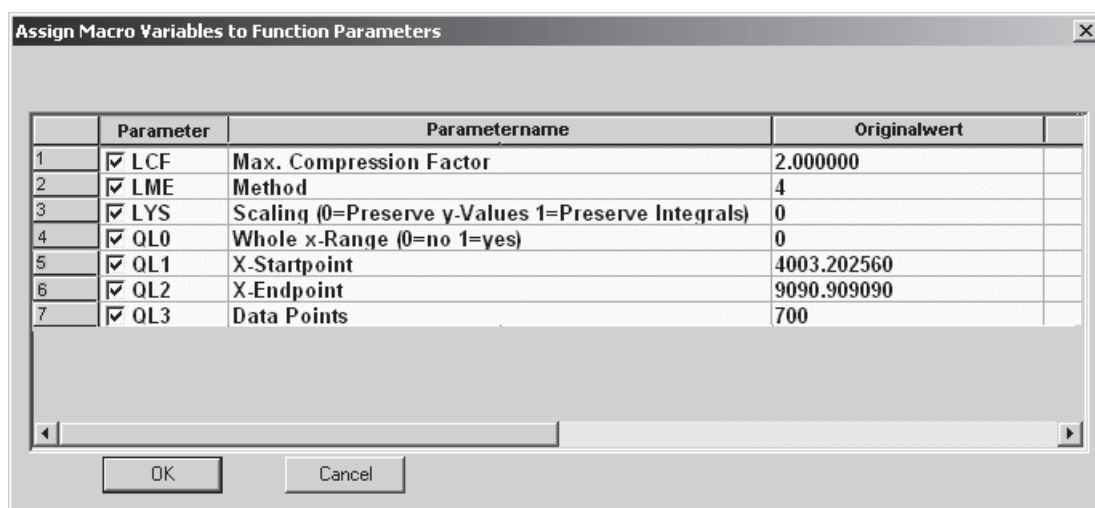

Figure 19: Macro editor - Assigning parameters
**Note:** When converting a particular frequency range into *nm* (wavelength) you first have to select the range into  $\text{cm}^{-1}$  (wavenumbers) in OPUS. The parameters correspond to the settings made in the *1/cm <-> nm* OPUS command. Thus, you can first try out the correct parameters in OPUS, and later assign them accordingly by means of the macro editor (see figure 19, of example 3). The *Method (LME)* parameter controls the conversion direction: *Method 4 = cm-1 -> nm* (see figure 19).